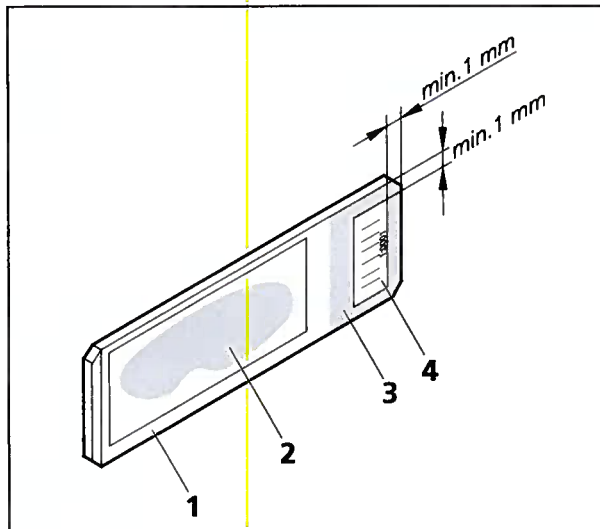

Fig. 4-3 Slide with barcode label
The barcode field (Fig. 4-3/3) is scanned by the preview camera and displayed in the software. When marking, ensure that at least 1 mm is kept free around the barcode field.
- Detach a barcode and affix as shown in Fig. 4-3 to the colored area (Fig. 4-3/3) without creases.
- The barcode (Fig. 4-3/4) must be affixed to the specimen side (with coverslip) (Fig. 4-3/2) of the slide (Fig. 4-3/1).